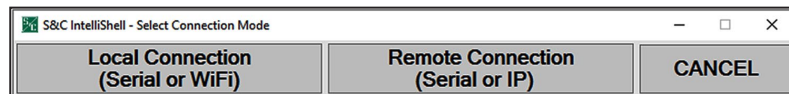

Figure 4. The S&C IntelliShell—Select Connection Mode dialog box.
**STEP 2.** Select the **Local Connection** option in the S&C IntelliShell—Select Connection Mode dialog box. See Figure 4.